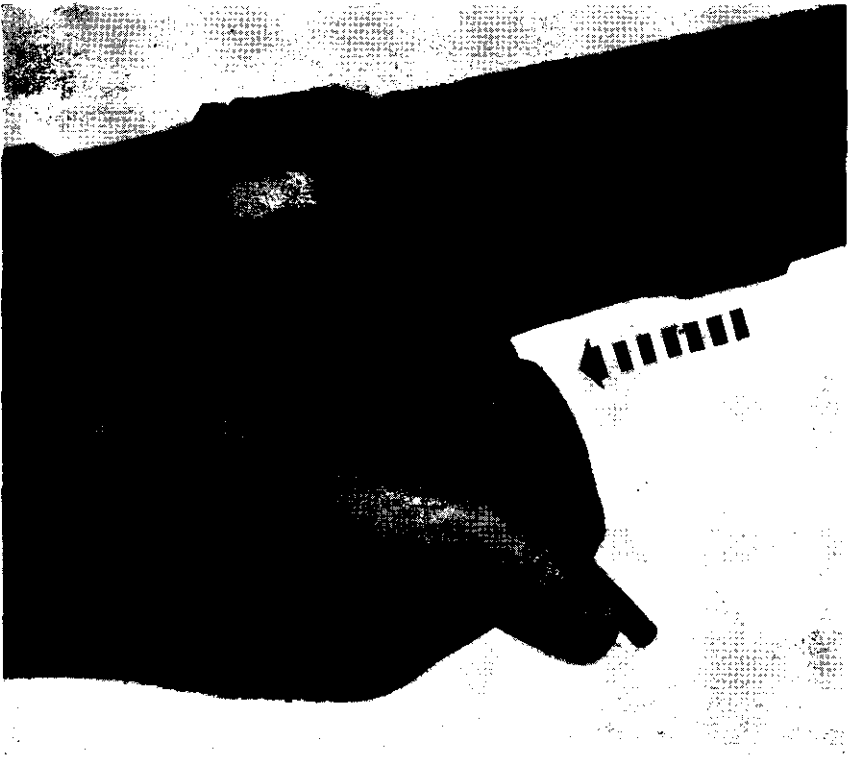

Figure 54. Removing brush from chamber.
- (b) To remove the brush from the chamber, grip the rod as shown in figure 54 as close to the bolt as possible (without gripping the operating rod handle). With the bolt remaining against the brush, pull the unit rearward sharply until the brush clears the chamber. Lock the bolt in the rearmost position and remove the brush.